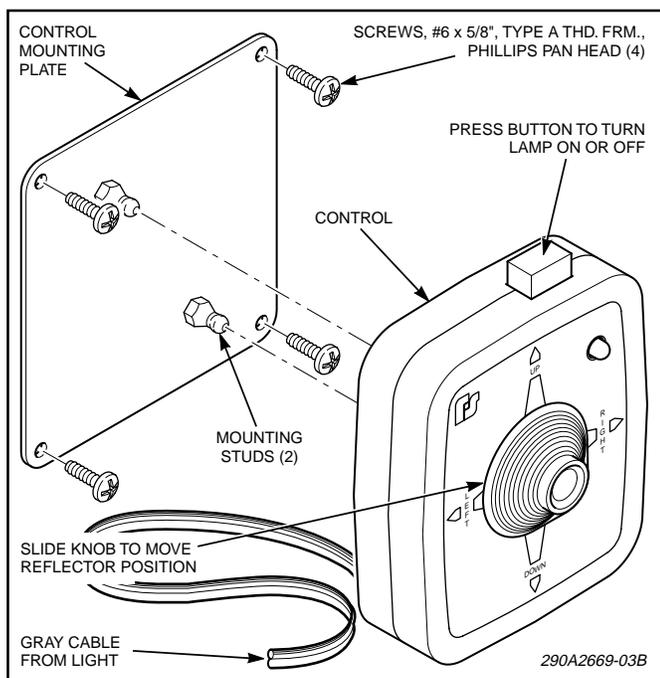

Figure 1.
B. Snap Mounting (see figure 1).
A. See figure 1. To move the spotlight reflector, slide the round gray knob (located on the control's face) in the desired direction. It is not necessary to illuminate the lamp to move the reflector.
B. See figure 1. To illuminate or extinguish the lamp, press and release the gray button on the top of the control. The lamp indicator will illuminate when the spotlight's lamp is illuminated.